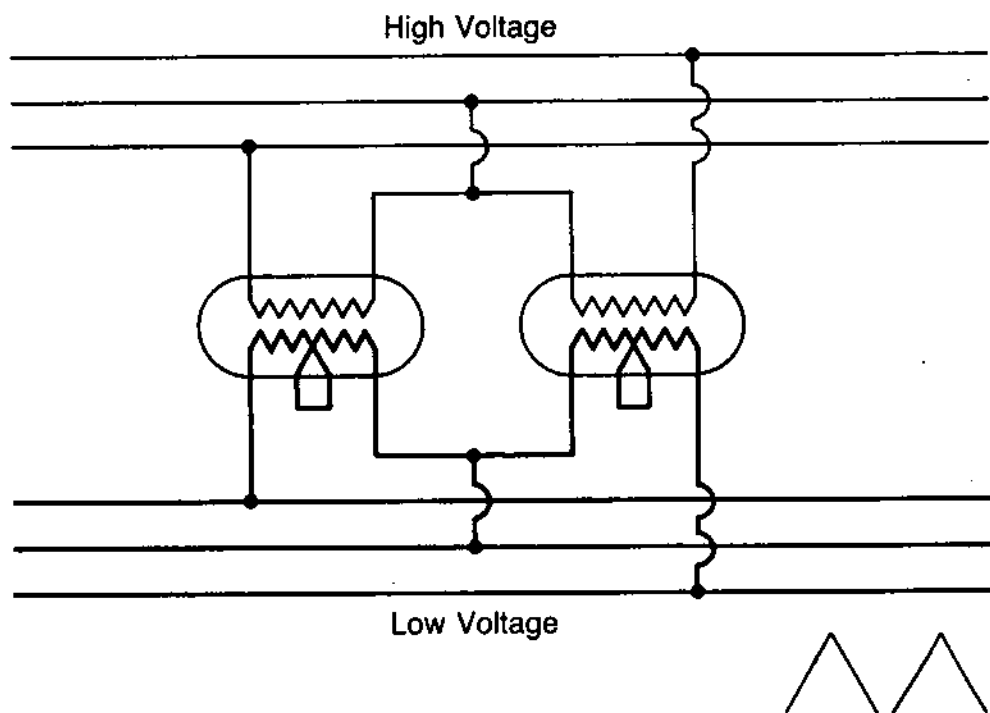

Fig. 33 – Three-Phase, Open Delta Connection
b. Three-phase, open-delta connection is shown in Figure 33. Three-phase to three-phase may be transformed by the use of two similar transformers in open delta. In the connection the two units will transform 86 percent of their rating, i.e., two 100 kVA units in open delta, transforming three-phase, 2300 volts to three-phase 230-115 volts will have a bank capacity of 172 kVA.